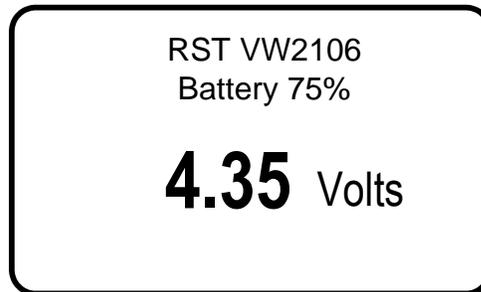

FIGURE 6-3 BATTERY VOLTAGE SCREEN
3. The readout will display the current battery status, as illustrated in Figure 6-3.